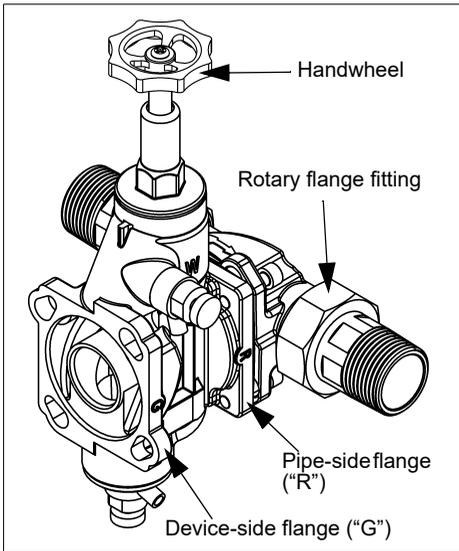

Fig. 4: Bypass valve (JQX)
- Connect the bypass valve with the rotary flange fitting, by engaging the bayonet, on the flange side with the cast-in letter “R” (R=Rohr [pipe]) (see fig. 4).